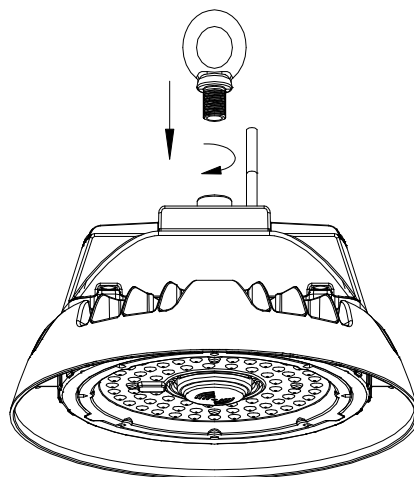

Fig. 2
2. Install the hook/ring on fixture. See Fig. 2.